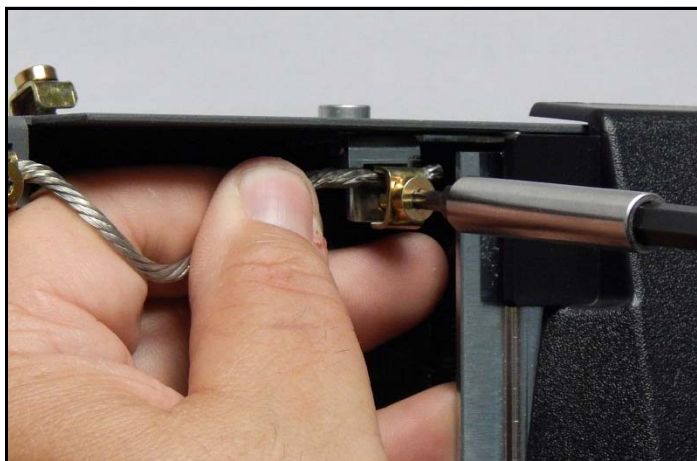

Figure 22. Connect The Ground Cable
2. Connect the Ground cable to the Display door (see Figure 22).